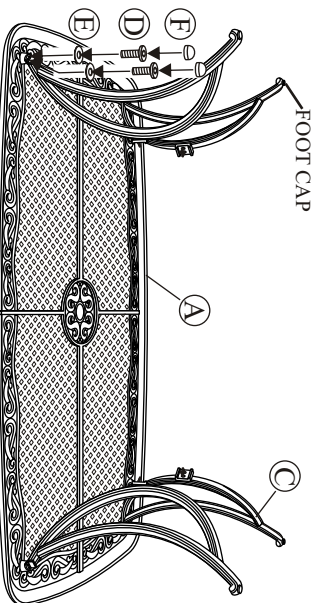

Fig. 1
1 **Important: We recommend 2 people work together to assemble the chair.** Note the arrow labels on the "U" bar and the rocker assembly. Also note the horseshoe shape of the rocker plate. Point the open end of the horseshoe away from you. The arrows on the rocker assembly should be pointing towards you. Set the chair frame on the rocker assembly with front of the seat facing you and the arrows on the "U" bar pointing towards you as shown in **Figure 1**. This is very important for a safe, balanced rocking motion. **If chair frame has been properly positioned on the rocker assembly, all arrows on the "U" bar and rocker assembly will be pointing in the same direction.**
Step 2: Place the table top upside down on a flat, non-abrasive surface. Attach a table leg to the table top by using the bolts and washers as shown in Fig. 1. Guide bolts through holes in the table legs and into the pre-drilled holes in the table top. **Hand tighten 2-3 turns only.** Repeat for the other three legs.
- 1 Place the table top upside down on a flat, non-abrasive surface. Attach the table leg to the table top by using the bolts and washers as shown in Fig. 1. Guide the bolts through the holes in the table leg, into the pre-drilled holes in the table top. **Hand tighten only.** Repeat for the other three legs.